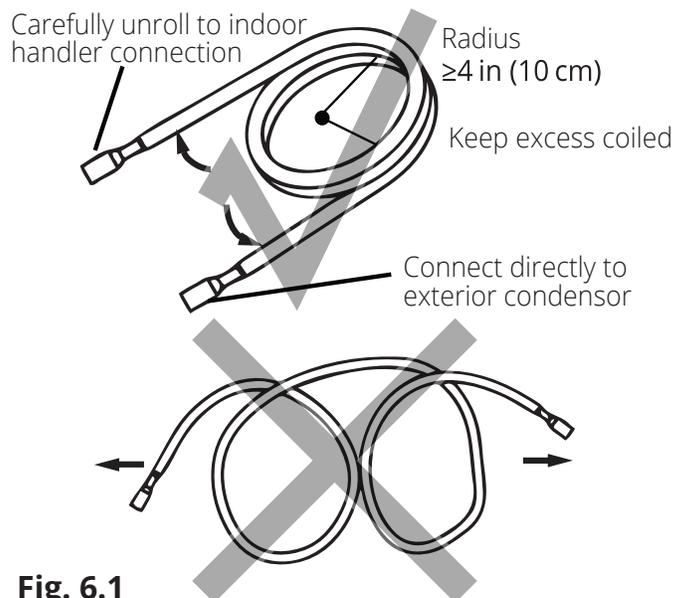

Fig. 6.1
1. Use your hands to slowly unwind the copper piping of one end of the line set. The end you unwind will connect to the indoor unit piping. You should unwind the end until the connectors are close to flat on the ground (with little to no bend). If this is not done, it could make the line set difficult to maneuver when aligning the connectors with the air handler piping. Only unwind as much as necessary for your application, and allow any excess to remain coiled (Refer to Fig. 6.1).
When bending connective refrigerant piping, it needs to have a minimum bend radius of 4 inches (Refer to Fig 6.1).